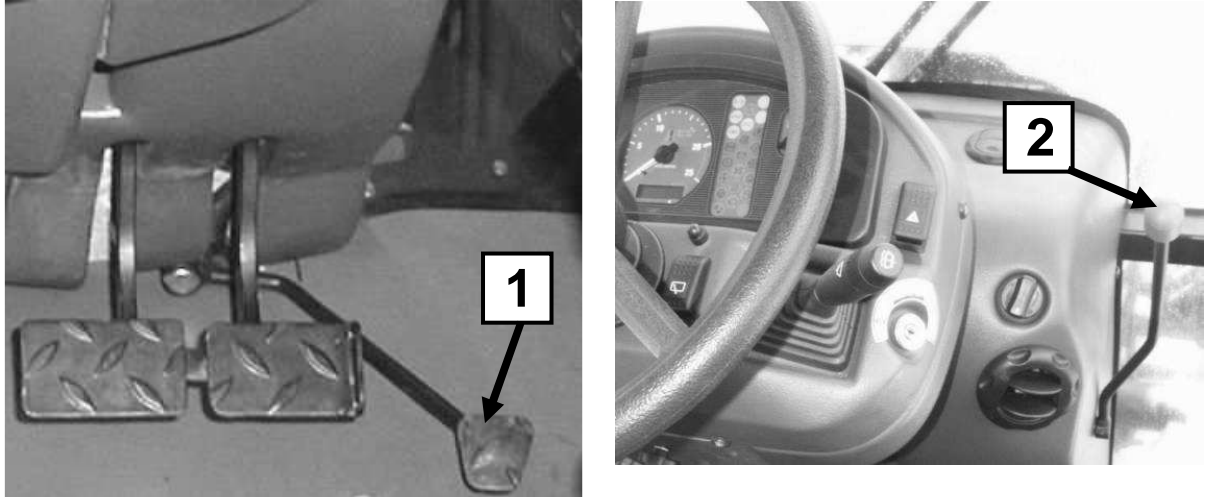

Figure 4-16 Control of engine RPM speed. 1 – accelerator pedal; 2 – accelerator lever;
- accelerator pedal (**item 1; Figure 4-16**)
- accelerator hand lever (**item 2; Figure 4-16**)